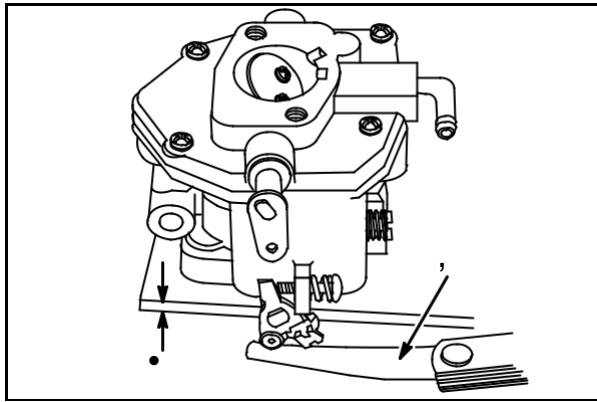

Fig. 76
Lay carburetor on 1/4" (6.35 mm) raised flat surface (1). Use a feeler gauge (2) to check throttle and choke shaft clearance as shown in **Fig. 76**.